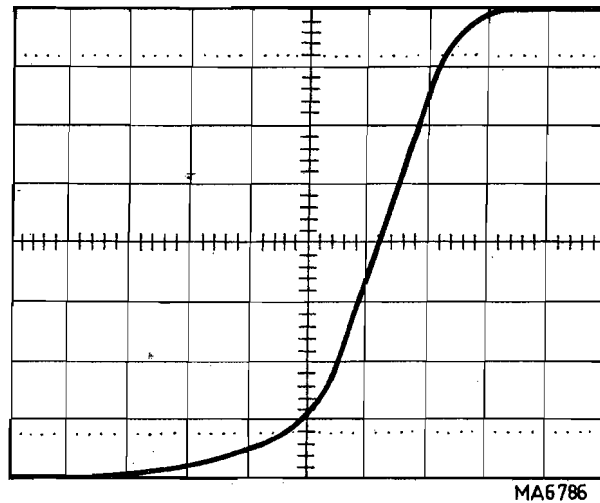

Fig. VIII-12. Enlarged display of the intensified edge which is obtained when the X DEFL switch is set to DEL'D TB
- Use the  $Y_A$  POSITION control in conjunction with the AMPL switch and AMPL potentiometer, to obtain a condition in which the edge of the displayed pulse begins on the bottom horizontal graticule line and ends at the top graticule line (i.e. the vertical deflection rises through exactly eight horizontal graticule divisions) See Fig. VIII-12.